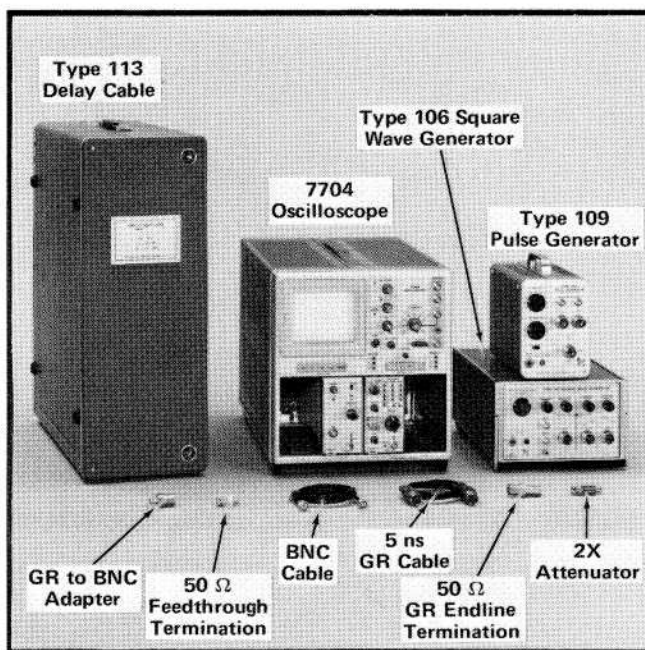

Fig. 5-3. Test equipment required for steps 11 and 12.
11. Adjust High Frequency Compensation ①
a. Test equipment required for steps 11 and 12 is shown in Fig. 5-3.